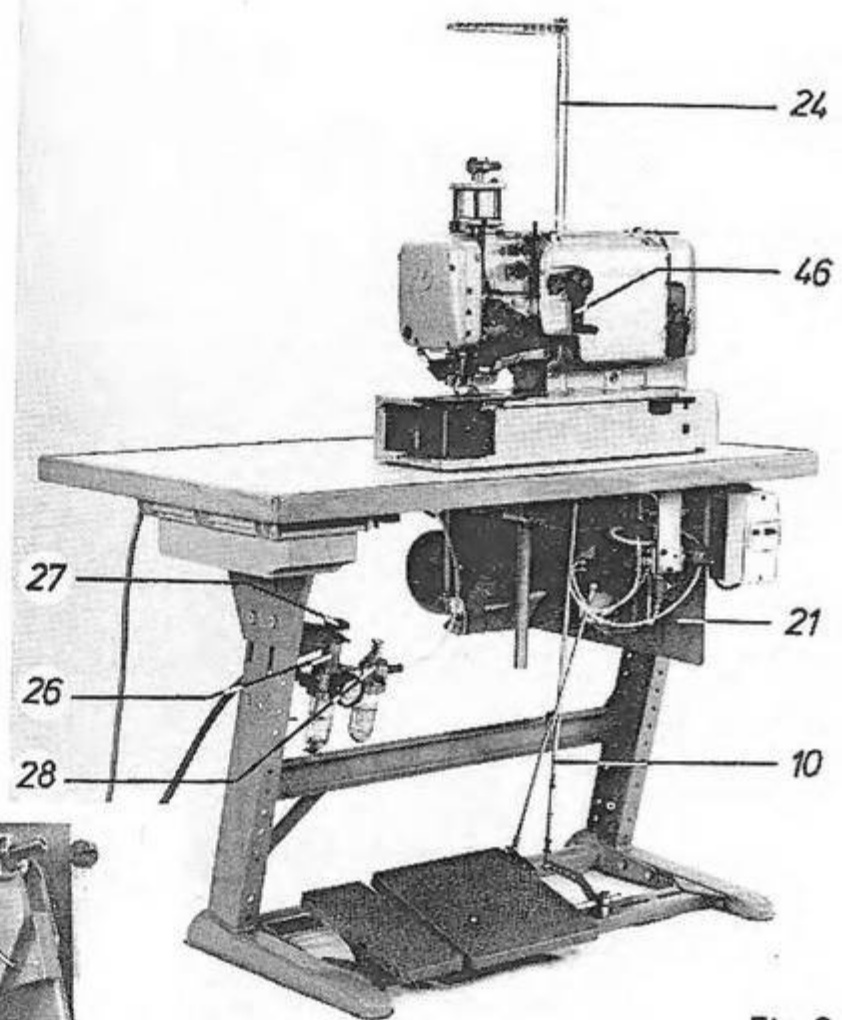

Fig. 3
11. Mount the pedals and the rods according to fig. 3 (longitudinal installation). By modifying the rod length set the pedal height. Adjust the rods 10 so that with the l/h pedal being fully heeled down a full stroke is obtained (stop screw in the base).
23. Fasten the belt guard 21 (fig. 3) to the lower side of the table top.
25. Fasten the thread unwinder 24 (fig. 3) to the table top.
27. Fill the oiler 26 (fig. 3) with Spinesso 10 oil or with an oil of equivalent quality and connect the machine to the compressed air line. Set the service pressure of 6 bar by the wheel 27.
After elimination of the disturbance the buttonhole can be sewn once again or sewn over or, by means of the crank 46 (fig. 3), it can be transported in the position where the disturbance has occurred for continuing the sewing.